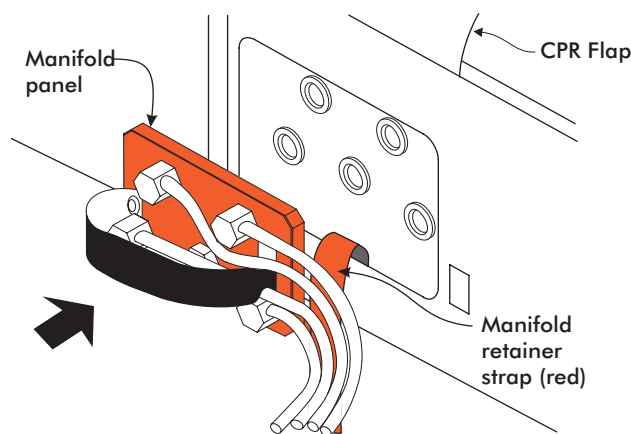

Fig. 5A
- b. Snap the manifold panel (at the end of the hoses) into position (fig. 5A).